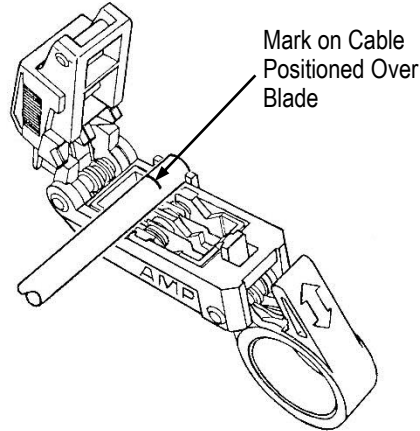

Figure 5
4. Hold the tool with the handle toward you and insert cable from left into the groove position. Close and latch tool. See Figures 5 and 6.